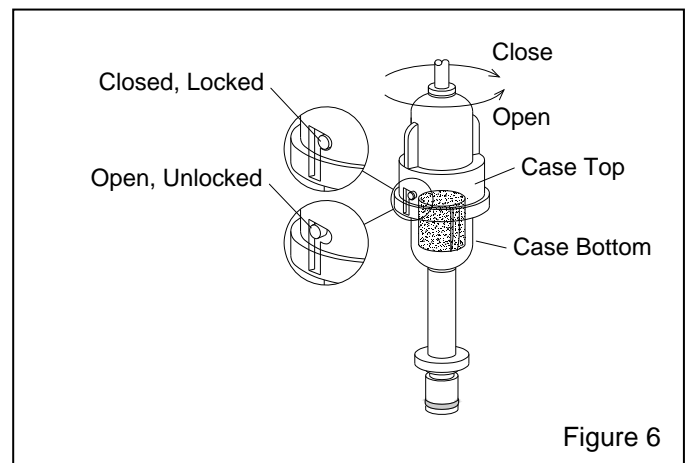

Figure 6
4.4.3 To open the humidifier case, hold the assembly and rotate the top counterclockwise, as shown in Figure 6. Note the o-ring on the bottom case provides a tight friction-seal, use hand force to rotate and separate the humidifier top and bottom cases. **Do not use tools that could crack the case.**